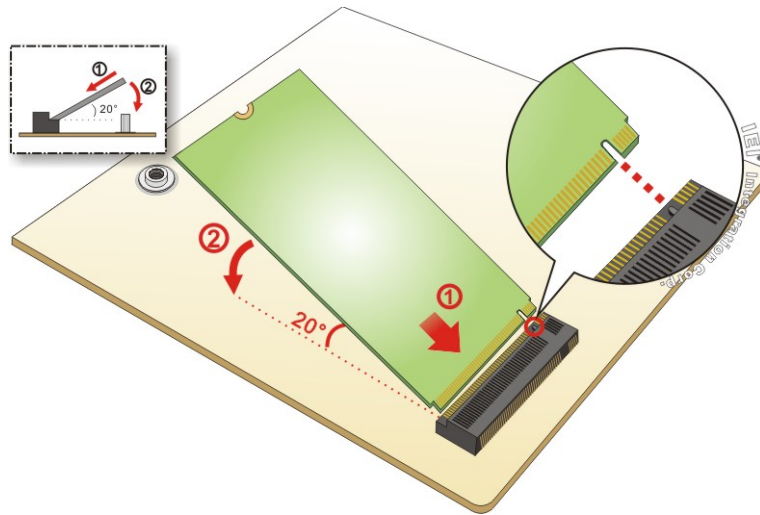

Figure 3-9: Inserting the M.2 Module into the Slot at an Angle
Step 4: Line up the notch on the module with the notch on the slot. Slide the M.2 module into the socket at an angle of about 20° (**Figure 3-9**).